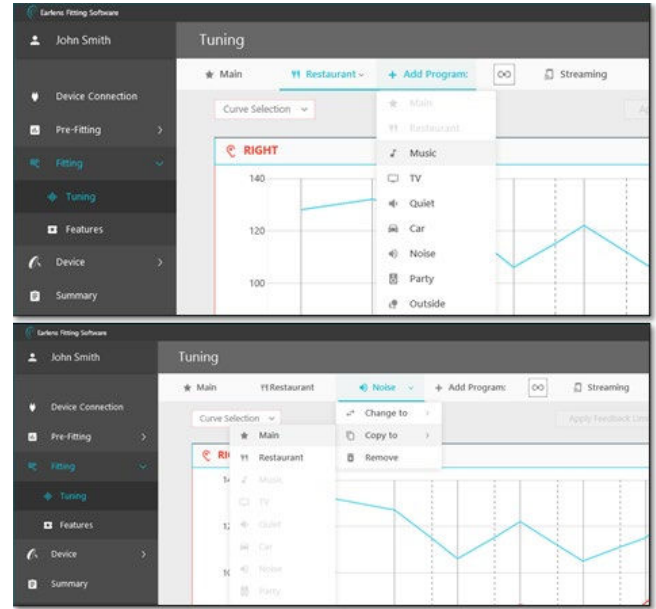

Figure 40: Add or copy programs
- Programs can be swapped and copied from one to another using the ‘Copy to’ option in the drop-down menu for each program slot. (Figure 40).